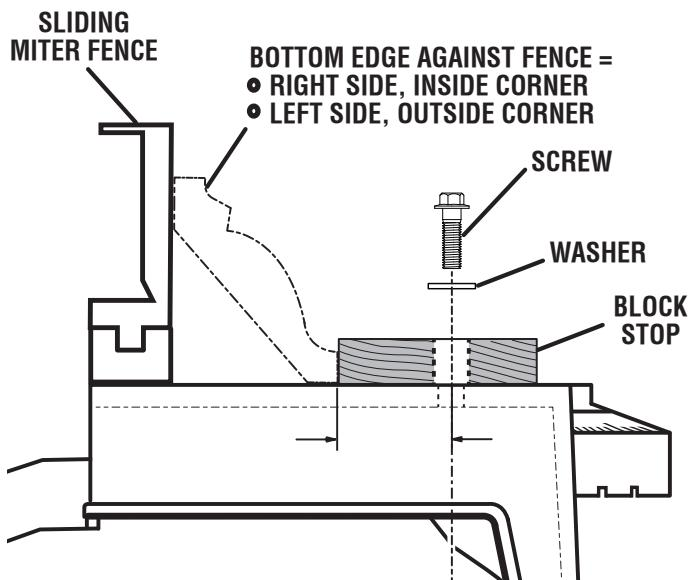

Fig. 36
See Figures 36 - 37.
- Nest and secure the crown molding against miter fence and the block stop, as shown in figure 36.